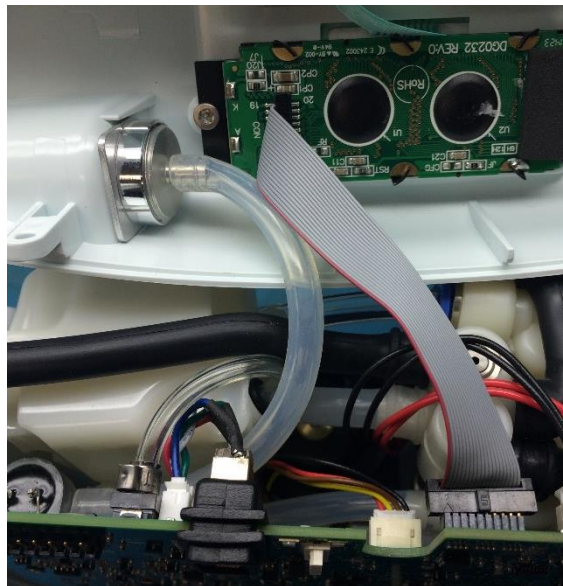

Figure 5: Orientation of LCD cable
1. Remove the power cable from the user interface panel and install the new LCD cable. Fold the cable as shown in Figure 5. *Note the location of the red wire.*